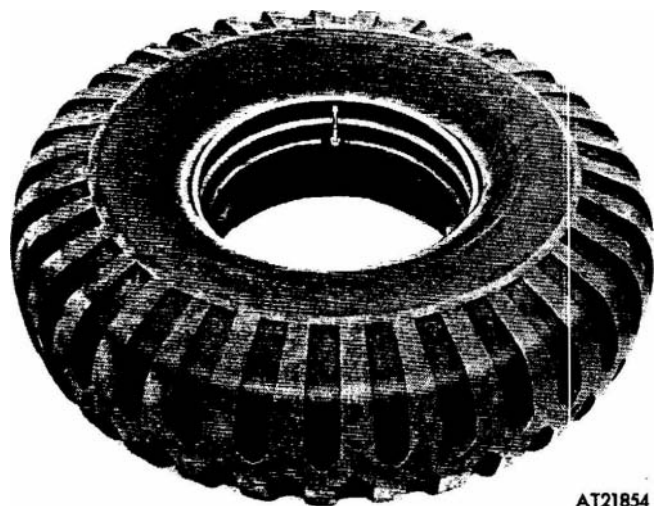

Figure 2-201. Position tire over wheel.
(1) Clean wheel assembly.
(2) Apply liquid soap or lubricant (**MIL-L-836A**) to tire beads.
(3) Position inner bead of wheel rim down and drop tire over wheel (fig 2-201).